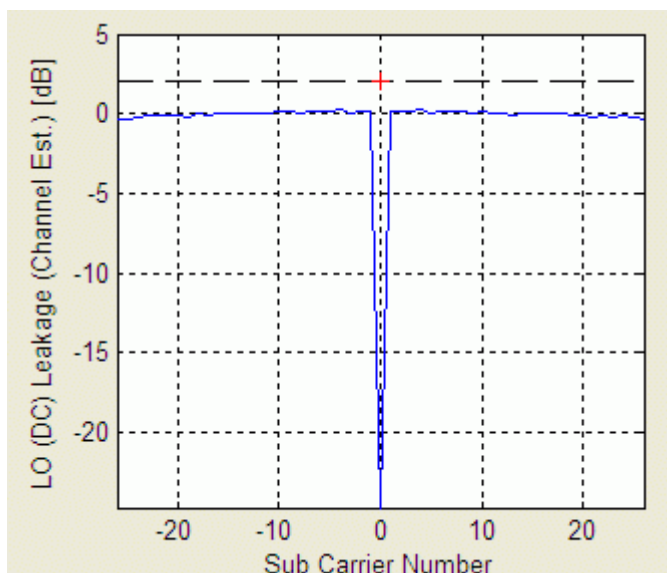

Figure 3-25. LO (DC) Leakage Graph for OFDM 802.11a/g Signal
Figure 3-25 illustrates the LO (DC) Leakage graph for OFDM 802.11a/g signal. The red plus sign (+) represents the IEEE specified 2dB limit.